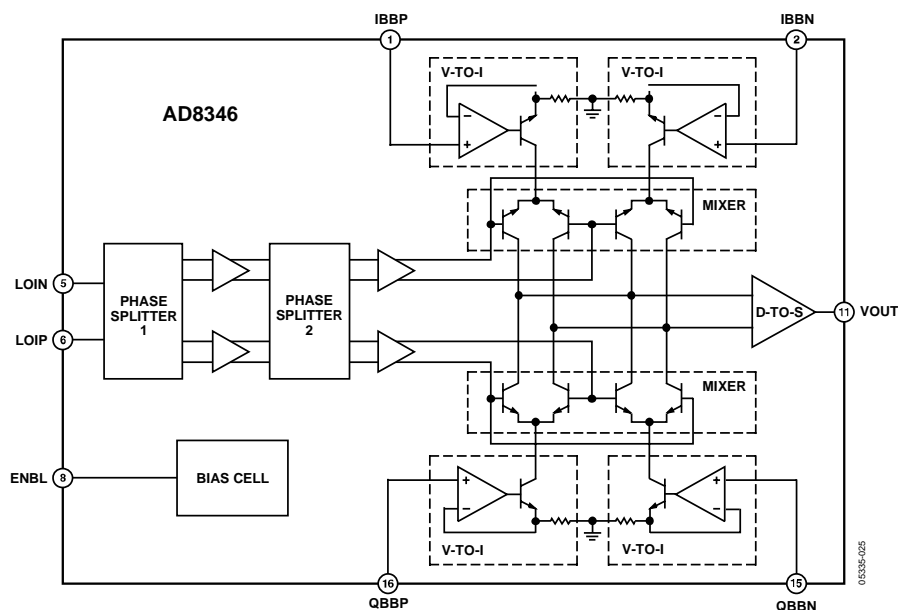

Figure 25. Detailed Block Diagram
The AD8346 can be divided into the following sections: local oscillator (LO) interface, mixer, voltage-to-current (V-to-I) converter, differential-to-single-ended (D-to-S) converter, and bias. A detailed block diagram of the part is shown in Figure 25.